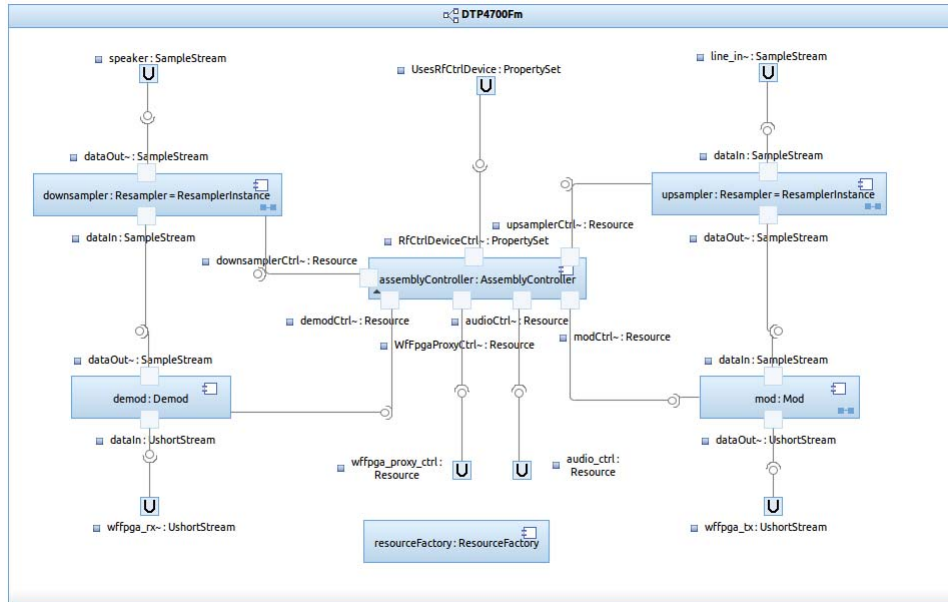

Figure 15 DTP4700Fm Application Assembly model
The functional parts of the DTP4700Fm waveform consists of four SCA components (implementation of the SCA `Resource` interface) used to transmit and receive Frequency Modulated (FM) analog audio signals over the air interface (RF) of the Thunder hardware platform. The modulation and demodulation functions are implemented in C for deployment on the DSP processor and the up-sampling and down-sampling functions are implemented in C++ for deployment on the ARM processor. *Figure 15* shows the Spectra CX model of the waveform.